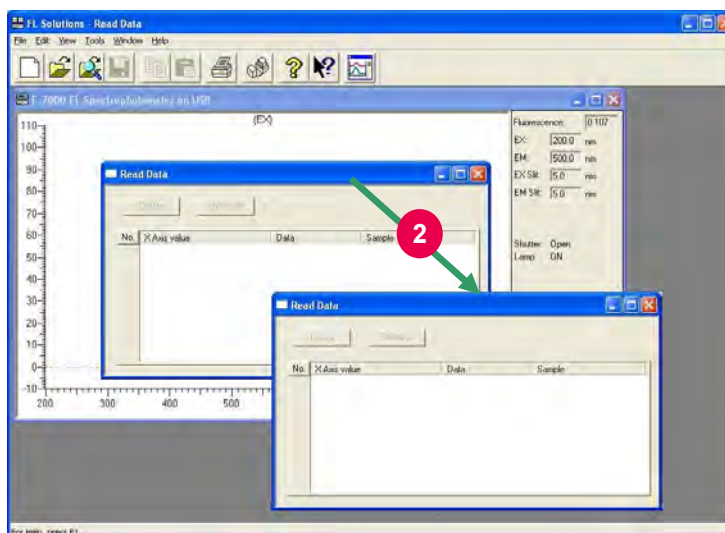

Fig. 7-52
- (2) The Read Data box will appear as shown in Fig. 7-52. Drag the title area (blue) of the box to the lower right. (Refer to ② in Fig. 7-52.)